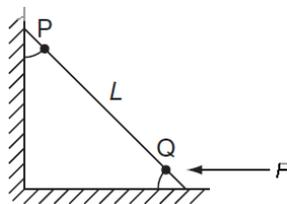

Figure 36 Question 48.
48. The rod PQ of length  $L$  and with flexural rigidity  $EI$  is hinged at both ends (Figure 36). For what minimum force  $F$  is it expected to buckle?